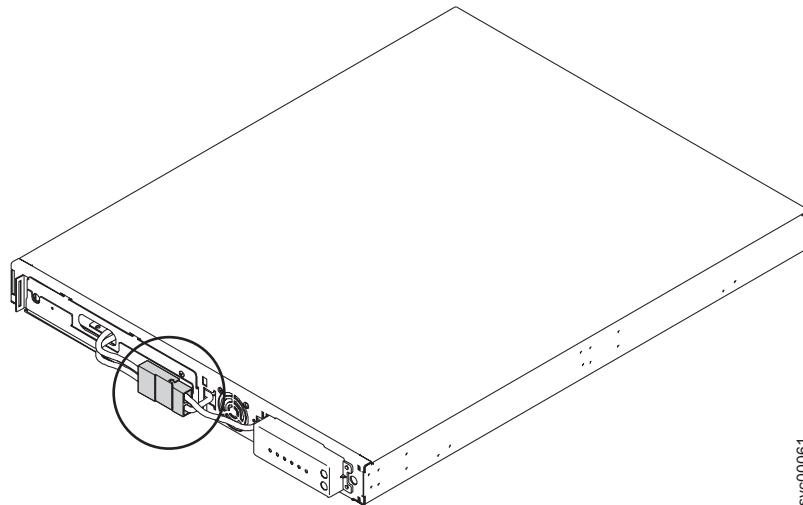

Figure 125. The 2145 UPS-1U with internal battery connectors in place
7. Connect the internal battery connector. See Figure 125 on page 293